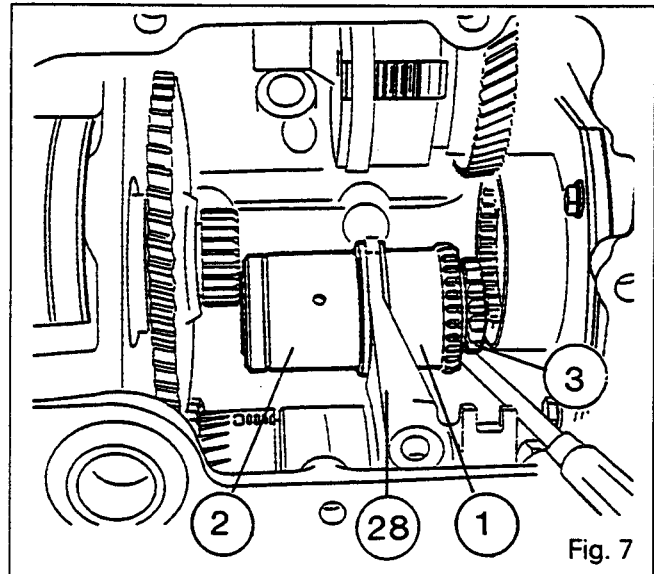

Fig. 7
14. Slide the sleeve (2) and the coupler (1) towards each other on the connecting shaft (3) (Fig. 7).
15. Move the assembly comprising the sleeve, connecting shaft and coupler to the outer left-hand edge and then withdraw it from the fork (28) (Fig. 7).
**Note: Mark the direction of fitting for the sleeve (2) (Fig. 7).**